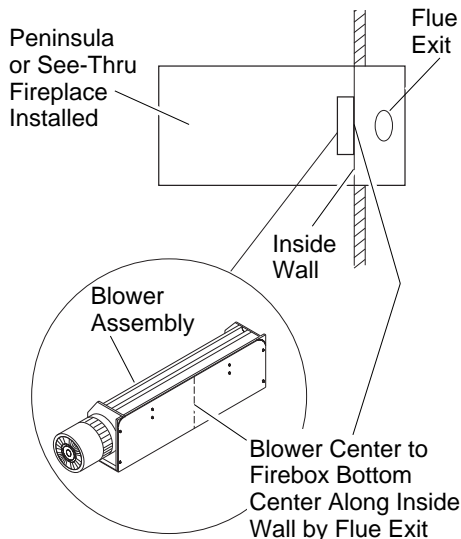

Figure 29 - Blower Assembly Placement
2. Place blower assembly so it rests flush against the inside wall on the flue exit side of the firebox (see Figure 29). There are four magnets on the bottom of the blower assembly that will keep the blower in place on firebox bottom. **Note:** If the blower kit is not installed flush against the inside side wall of the fireplace, the circulating air from the blower system will not flow properly.